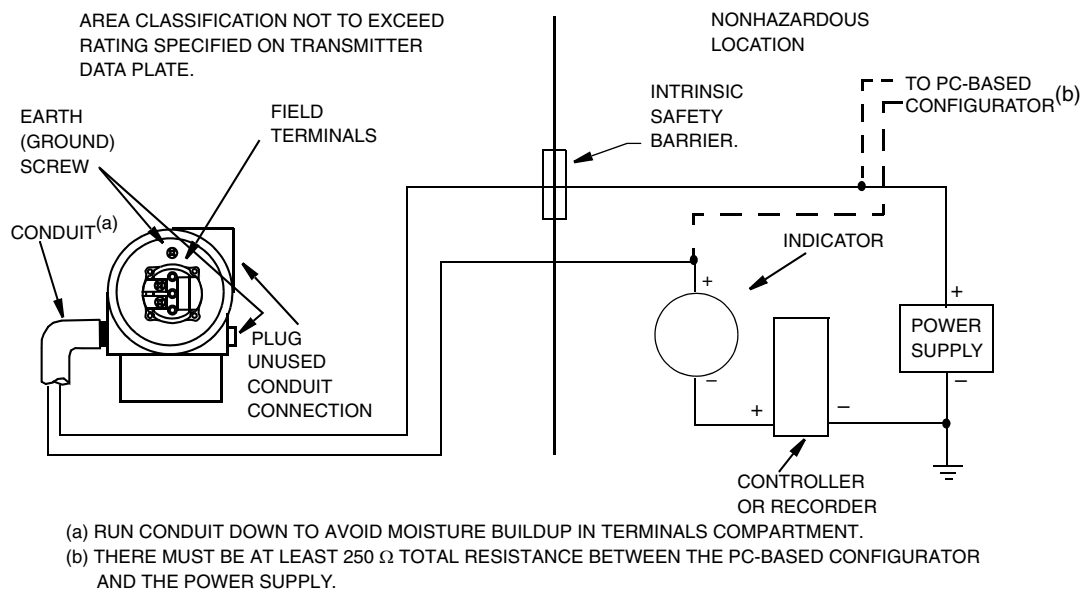

Figure 29. Loop Wiring 4 to 20 mA Output Transmitters
7. Connect receivers (such as controllers, recorders, indicators) in series with power supply and transmitter as shown in Figure 29.
10. The PC-Based Configurator can be connected in the loop between the transmitter and the power supply as shown in Figures 29 and 30. Note that a minimum of 250 Ω must separate the power supply from the PC-Based Configurator.